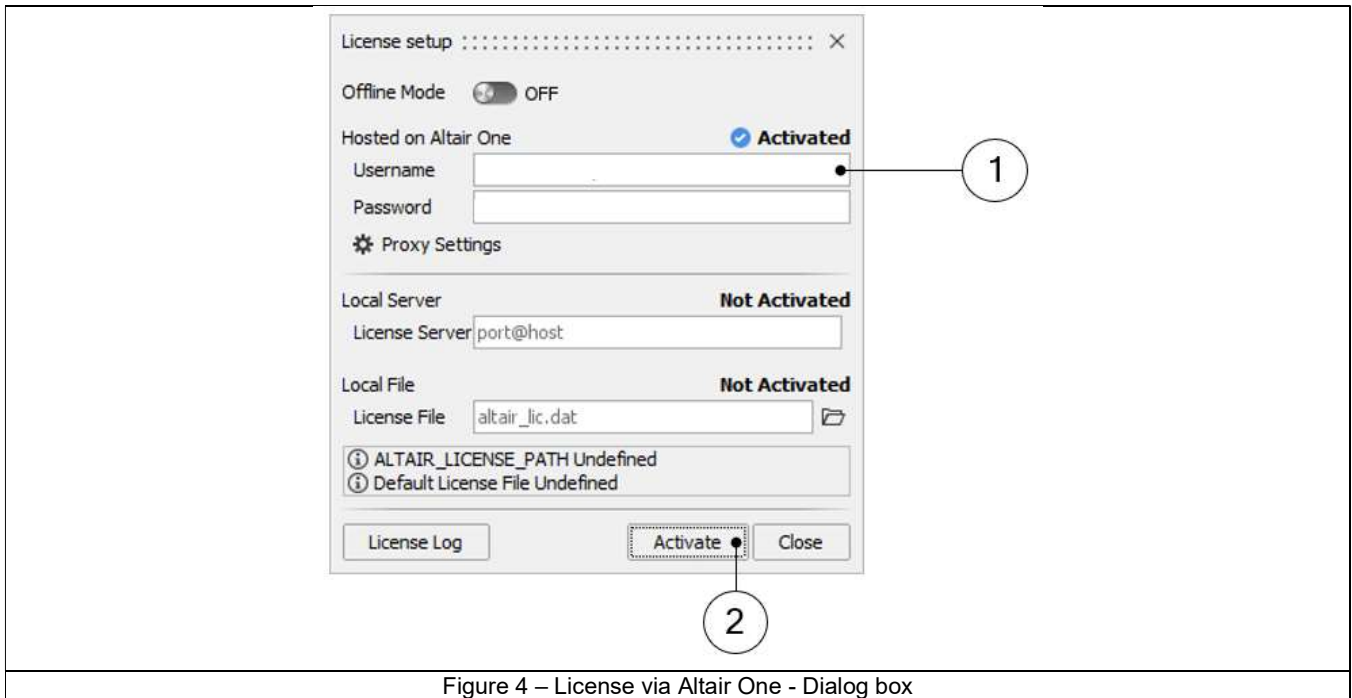

Figure 4 – License via Altair One - Dialog box
- 2) Enter the Username and Password you created for your Altair One™ account (Mark 1 - Figure 4 – License via Altair One - Dialog box).
- 3) Click on the Activate button (Mark 2 - Figure 4 – License via Altair One - Dialog box). The status changes to “Activated” when the license is validated, or you will receive an error message if unsuccessful.